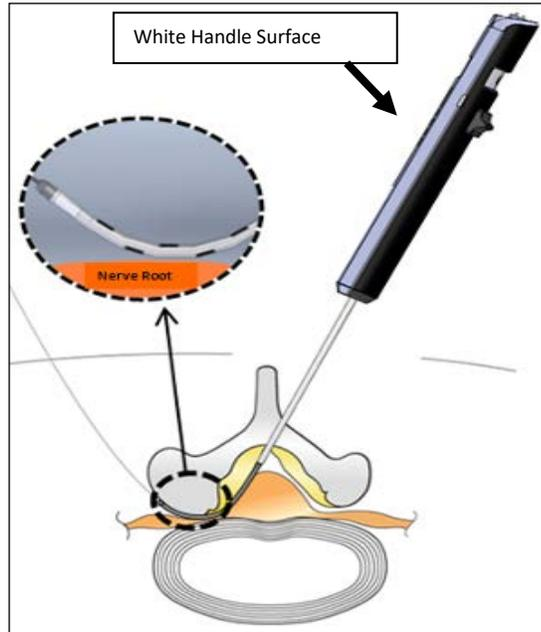

Figure 4: Neuro Check device orientation during insertion
9	Advance the Neuro Check device into the foramen ensuring that the white surface of the handle and more importantly, the corresponding electrodes of the Neuro Check device adjacent to the white handle, face away from the patient (see Figure 4).
3.2	<p>Connect the JJB Adapter, the Nuvasive JJB Handpiece, and the Neuro Check as illustrated in Figures 4- 6 below.</p> <div style="display: flex; justify-content: space-around;"> <div style="text-align: center;">  <p>Fig 4. Mate the JJB adapter with the Nuvasive JJB Handpiece receptacle.</p> </div> <div style="text-align: center;">  <p>Fig 5. Then rotate Handpiece black tip clockwise to lock down adapter.</p> </div> <div style="text-align: center;">  <p>Fig 6. Insert Neuro Check black connector into rear of adapter.</p> </div> </div>